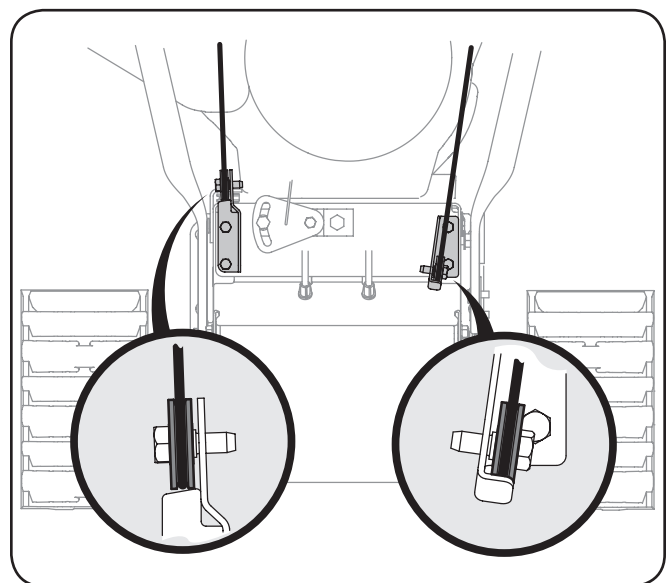

Figure 3-2
- NOTE:** Make certain the cables are seated properly in the roller guides. See Figure 3-2.